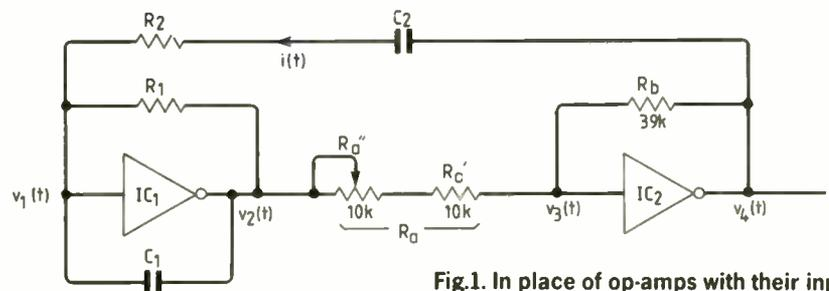
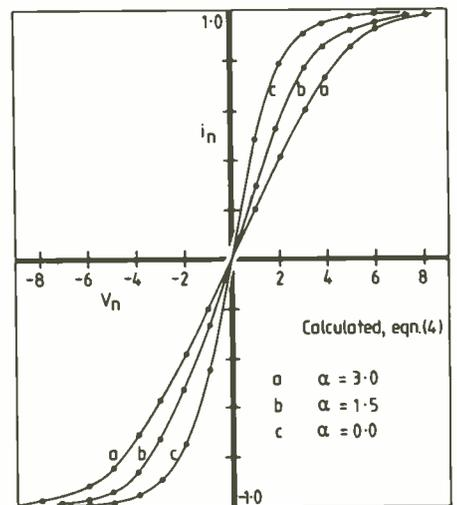

Fig.1. In place of op-amps with their inputs biased at half the supply voltage, the circuit uses c-mos inverters.
Fig.2. Graphs resulting from the application of equations (4) to (7).
This article describes a simple and inexpensive circuit using inverters instead of amplifiers (Fig.1). It easily covers the whole range of audio frequencies from 20Hz to 20kHz and can produce far lower sinewaves as well. Frequency is determined almost entirely by the RC constants and it can be very stable if stable resistors and capacitors are used. The influence of the inverters is negligible thanks to their high input resistance.
Referring to Fig.1, we can express all values in Laplace transform as follows:
Let us analyse now the more real case of Fig.2 with the link broken. According to Fig.1 and expressions 1 to 5, we may write
Fig.2. Equivalent circuit of the sine-wave oscillator of Fig.1. With the link closed, the circuit assumes inverters having infinite gain; practical devices have a finite gain (link open).
To establish the accuracy of (4), calculations were made using (4-7), shown in Fig.2, from which it is obvious that the proposed model accurately represents the normalized input-output characteristic of the long-tailed pair.